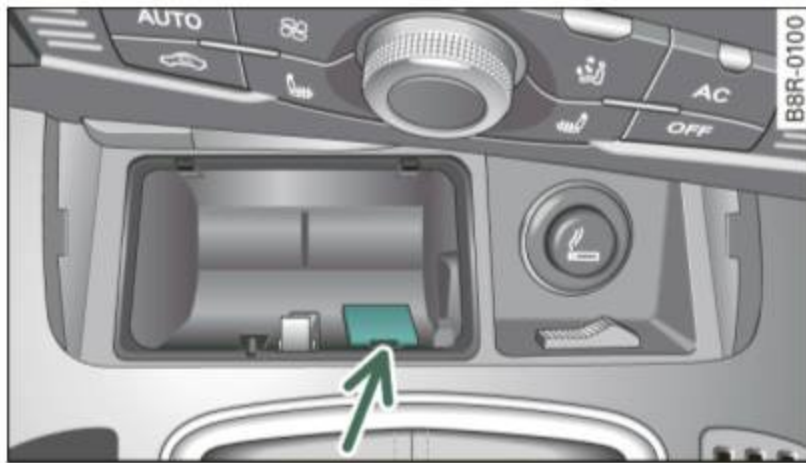

Fig. 160 Emergency release for selector lever
- You now have access to a bolt. Using a screwdriver or similar, press the bolt down and hold it down ⇒ *fig. 160*.